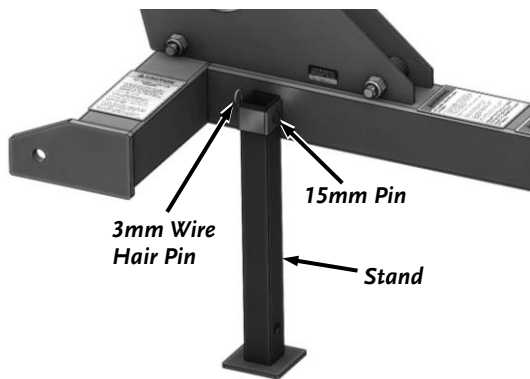

Figure 9
10. With assistance, lift the Frame and install the Stand into the Frame mount. Secure the Stand with a 15mm Pin and 3mm Wire Hair Pin and Lower the Stand to the ground. (**Figure 9**).